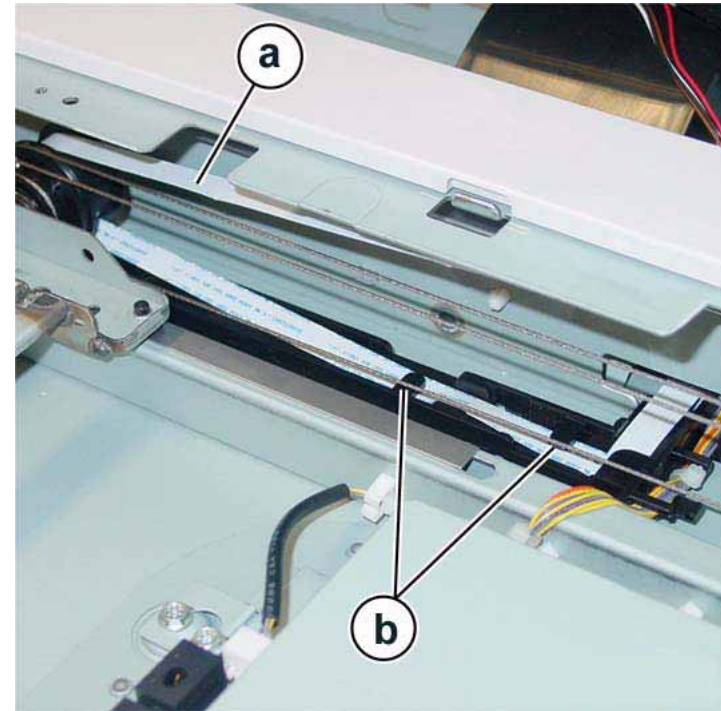

**Figure 2 Removing Slide Cord from Full Rate Carriage**
12. Remove the Slide Cord from the Full Rate Carriage. Figure 2